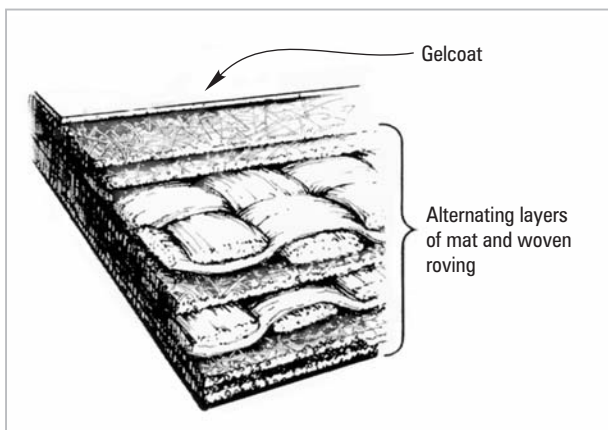

Figure 1-1 Typical solid (single skin) fiberglass laminate. Various reinforcing fabrics are bonded together with polyester resin.
Generally, production fiberglass boat hulls are built in a female mold. A release agent is first applied to the surface of the mold, over which the gelcoat material is applied. Gelcoat is usually a pigmented, unsaturated polyester resin and may be anywhere from 12 to 22 mils thick. It is designed to act as a moisture barrier for the underlying laminate, as well as to provide a smooth, glossy, cosmetic finish. Subsequent layers of fabric are saturated with resin and laid up over the gelcoat. There are as many lay-up schedules as there are boats. A typical hull section might consist of the layer of gelcoat, several alternating layers of mat and woven roving, and in many cases a core material such as end grain balsa or foam, followed by several more alternating layers of saturated mat and woven roving (*Figures 1-1 and 1-2*). Hull thickness may vary from boat to boat. Older boats were often laid up with a solid glass laminate thickness of 1½" (3.8 cm) to as much as 5" (12.7 cm) in the keel areas of the more heavily-built boats. Today, however, the trend is toward thinner, lighter laminates, making the structural integrity of each of the laminate components all the more critical.
b. Minor cracks or scrapes that run through the gelcoat into the first chopped strand mat layers of the laminate (*Figure 1-1*) should be repaired with epoxy using the procedures described below (Section 2.1). Finish with the gelcoat repair technique described later in Section 2.2.1. If necessary, reinforce the laminate to reduce flexing as described in Section 3.